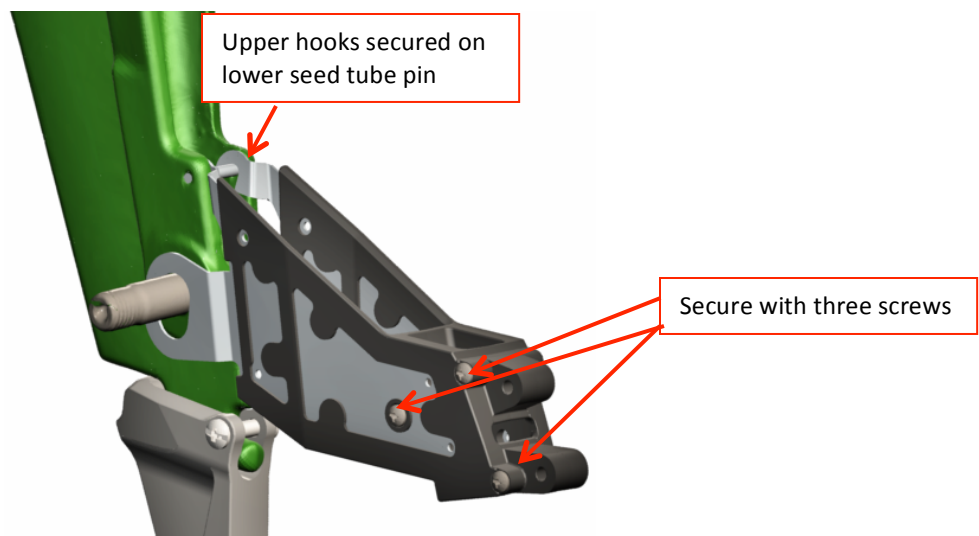

Figure 2-3
Secure the upper bracket hooks to the lower seed tube pin on the shank. Assemble the bracket pieces with the three (3) supplied #8 X 1.25" screws. Refer to figure 2-3.